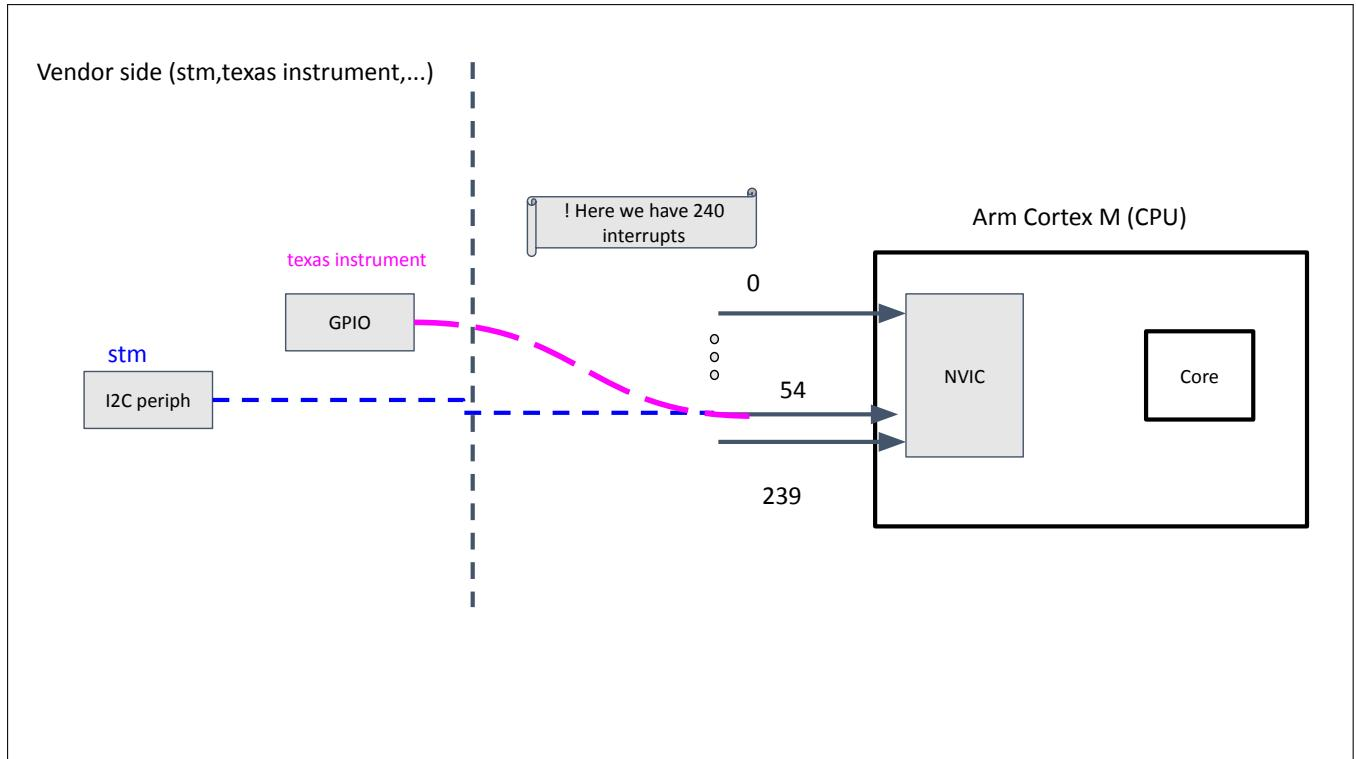

Figure 4.26: PPB Adresse map
To recap, figure Figure 4.26 presents a generic design.
- We have an example for IRQ54 in Figure 4.26, where the line is used by 2 different peripheral for each vendor